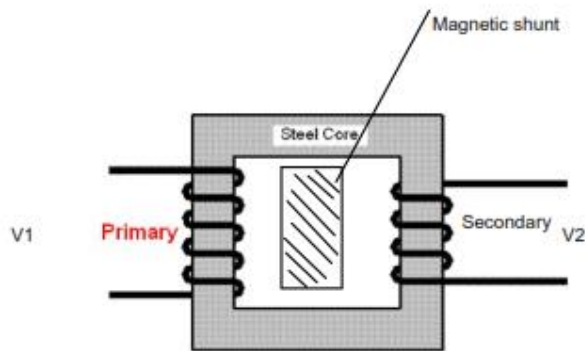

Figure 10 - Leakage transformer.
30. Leakage transformers or high-reactance transformers produce a comparatively high no-load voltage and a low short-circuit current inducing a magnetic shunt as shown in Figure 10, it allows a low leakage on no-load and a high flux leakage on short-circuit.